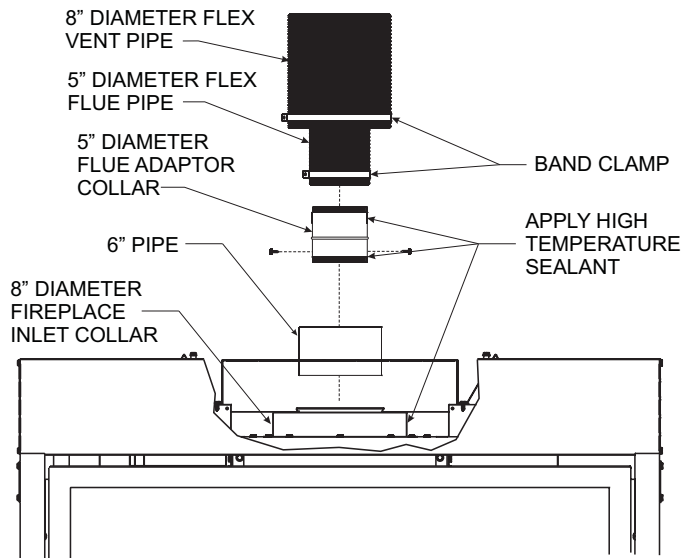

Figure 69
10. Apply sealant to the outside of the flue pipe adapter and connect to the flex flue pipe. Then insert the adapter into the fireplace flue. Secure flue adapter to the fireplace flue with a minimum of two screws provided. **See Figure 69.**